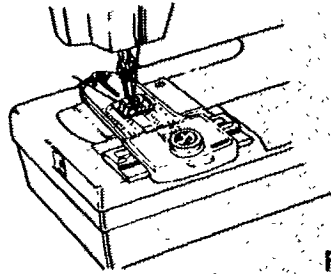

Fig. 4
5. Pick up bobbin thread through guide plate by turning hand wheel and drawing thread to back of machine. Place fabric between presser foot and guide plate. Line up edge of fabric with marked indentation on guide. See Fig. 4. If you wish all buttonholes to be $\frac{3}{4}$ inch from edge of garment, line up fabric with $\frac{3}{4}$ inch marking each time you start sewing a buttonhole.